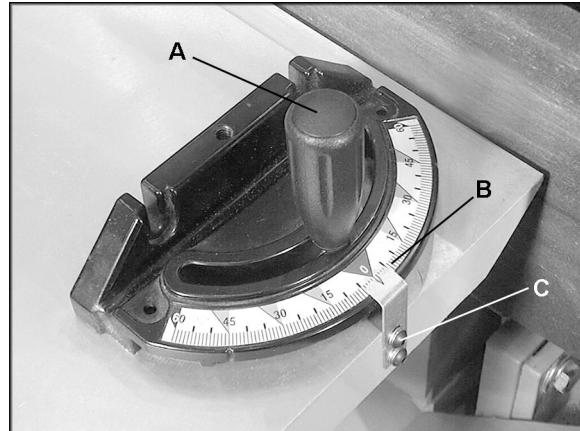

Figure 12
To adjust the miter gauge, loosen the handle (A, Figure 12). Rotate the miter gauge body until the desired angle on the scale lines up with the notch in the pointer (B, Figure 12). Tighten the handle (A, Figure 12).
1. Unscrew and remove the handle (A, Figure 12).
2. Remove the socket head button screws, flat washers and lock washers (C, Figure 12) with a hex wrench, and remove the pointer.